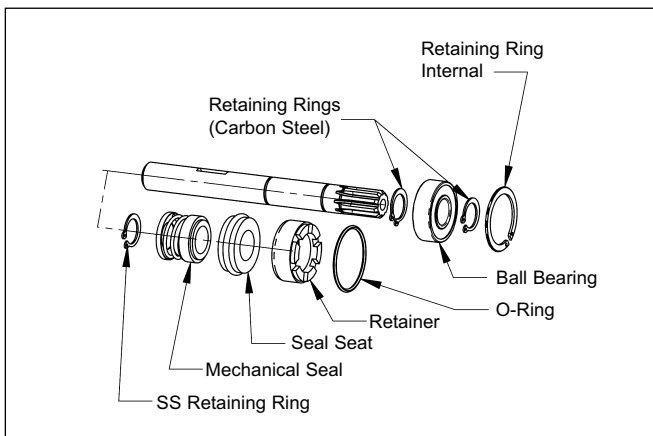
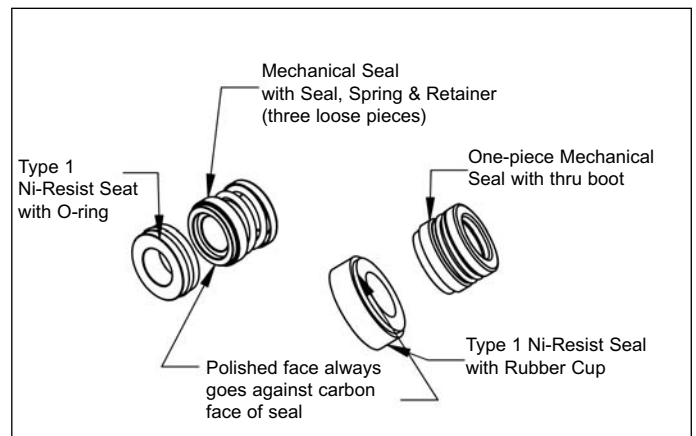
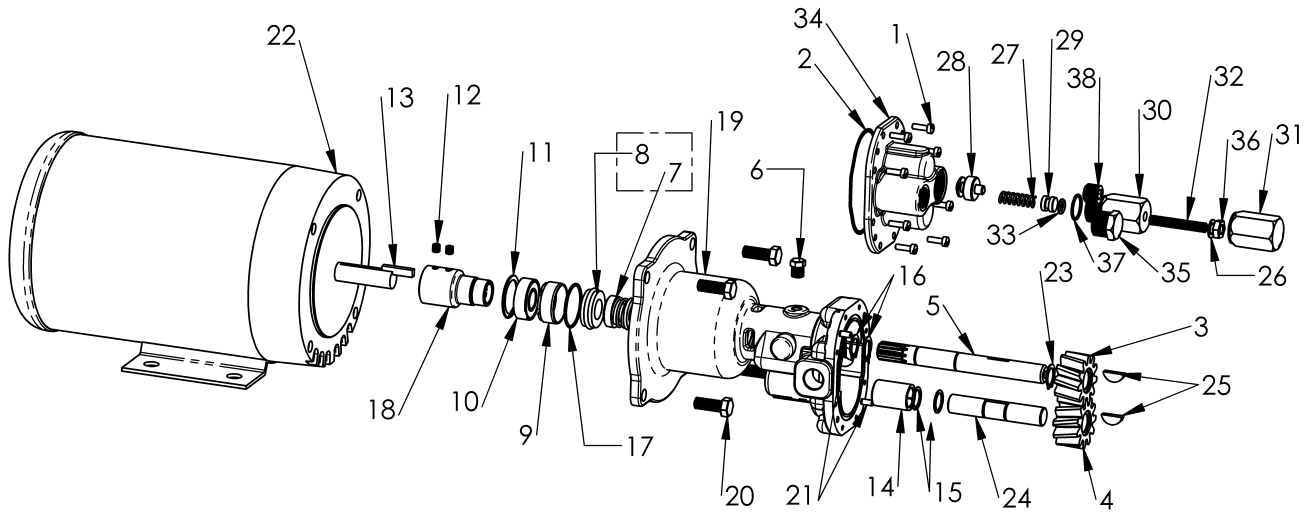

Figure 8 - Shaft and Seal Assembly
Figure 9 - Seal Types and Parts Identification
Figure 13 – Repair Parts Illustration
(Refer to Figure 13 for Reference Numbers and Figures 8 & 9 for detailed seal and shaft assemblies.)
3. From the drive shaft end of the gear pump, remove the internal snap ring (Ref. No. 11) from the body (Ref. No. 19). The drive assembly, which consists of the drive shaft (Ref. No. 5), seal assembly (Ref. Nos. 7 & 8), seat retainer (Ref. No. 9), bearing (Ref. No. 10) and retaining rings (Ref. No. 16 & 23), can now be removed from the unit (See Figure 8).
4. Inspect pump for wear on pump body, gear, shafts, bushings (bushing replacement is not recommended), bearings and cover. If any components are worn, consider replacing the complete pump. Complete pump heads can be found on Figure 13.
- b. There are two possible types of seals. One style, the seal is one piece while the other style has a seal boot, spring and spring retainer (See Figure 9). Refer to assembling components on drive shaft (See Figure 8). When installing the seal on the shaft, wet with water and be cautious when sliding it into position.
- c. The seal seats can also be of two styles; one has a rubber boot and the other has an o-ring. Identify which type you have (See Figure 9). Press seal seat into the seal retainer (See Figures 8 & 9) using water as a lubricant. The white shiny Type 1 Ni-Resist face should be visible after pressing the seal to the seal retainer. It is recommended to use a cardboard washer or wood dowel when pushing the seal seat into the seal seat retainer. Any scratches, dirt, or fingerprints on the carbon or Type 1 Ni-Resist faces will cause the seal to leak. The seal seat is stationary in the pump, while the seal on the shaft rotates. The carbon face spinning against the Type 1 Ni-Resist face provides for the sealing surface.
- e. Slide the drive shaft assembly (Ref. Nos. 7,8,9,10,16 & 23) into the gear pump and secure with the internal retaining ring (Ref. No. 11). (Also see Figure 8.)
1. (Refer to Figure 13.) Remove threaded cap (Ref. No. 31) and loosen lock nut (Ref. No. 36) on pressure relief valve adjustment screw (Ref. No. 32) and rotate clockwise (CW) 1-2 turns to pressure relief valve spring retainer (Ref. No. 29).